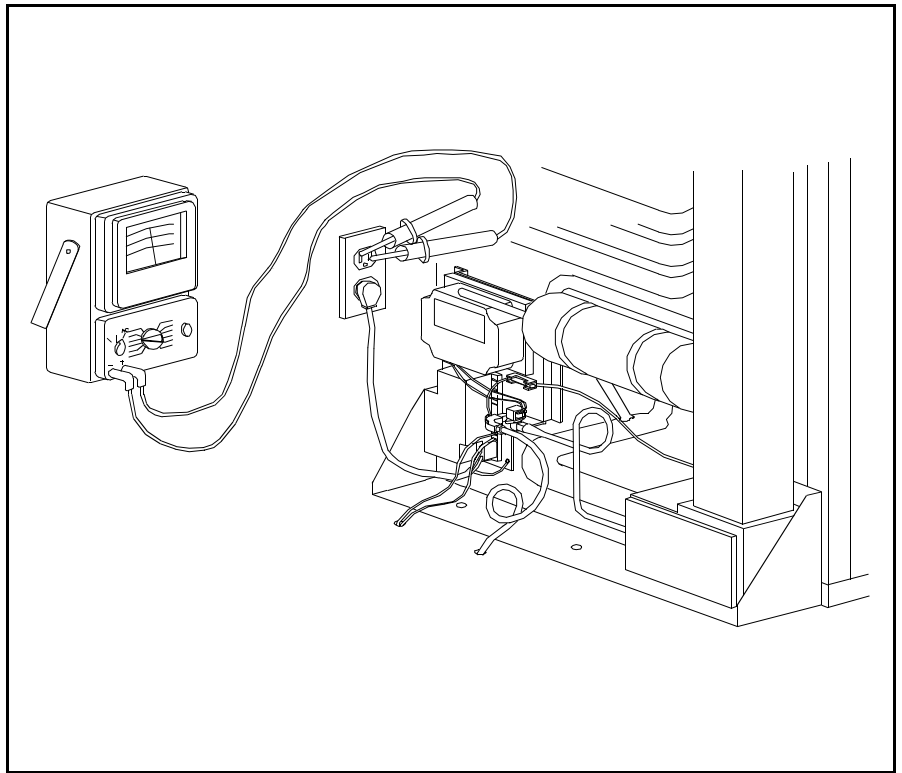

Figure 5.40 120 Volt AC Supply Check
1. Check the 120 volt AC supply as shown in Figure 5.40.